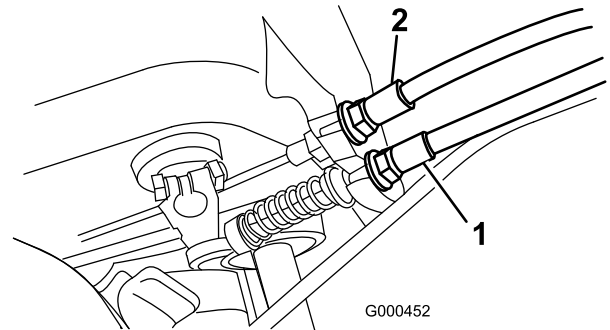

Figure 35
2. To increase cable tension, loosen front cable jam nut and tighten back cable jam nut (Figure 35) until a force of 11–14 lb. (5–6.3 kg) is required to engage brake. Force to be measured at lever knob. Do not over adjust, or brake band may drag.